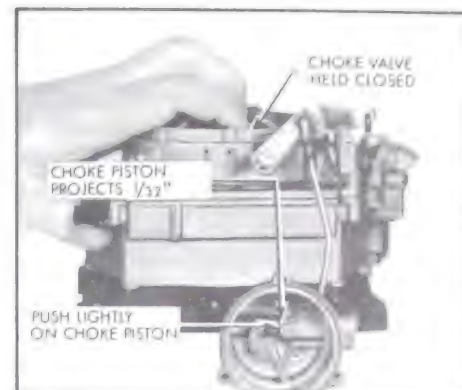
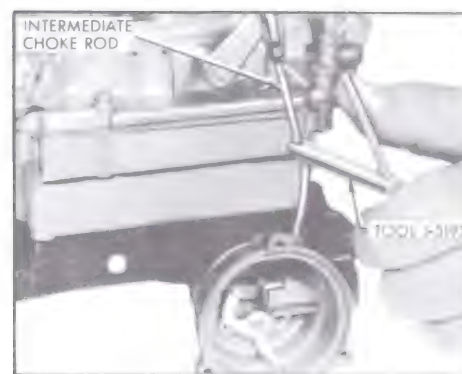

Figure 3-68—Checking Choke Piston Adjustment
Figure 3-69—Adjusting Choke Piston just closed, then tighten screws and retainers. See paragraph 3-8.
12. Choke Piston Adjustment. With choke valve held tightly closed, and with choke piston pushed lightly toward its cylinder (to take up any linkage slack), check to see that choke piston is projecting from cylinder 1/32". See Figure 3-68. If adjustment is required, bend intermediate choke rod using Tool J-5197. See Figure 3-69.